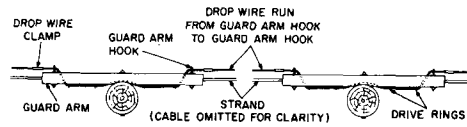

Fig. 9 — Drop Wire Run Along Lead From Guard Arm to Guard Arm
5.06 When making runs along the lead from guard arm to guard arm or from guard arm to pole, dead end the drop wires as illustrated in Fig. 9, 10, and 11.